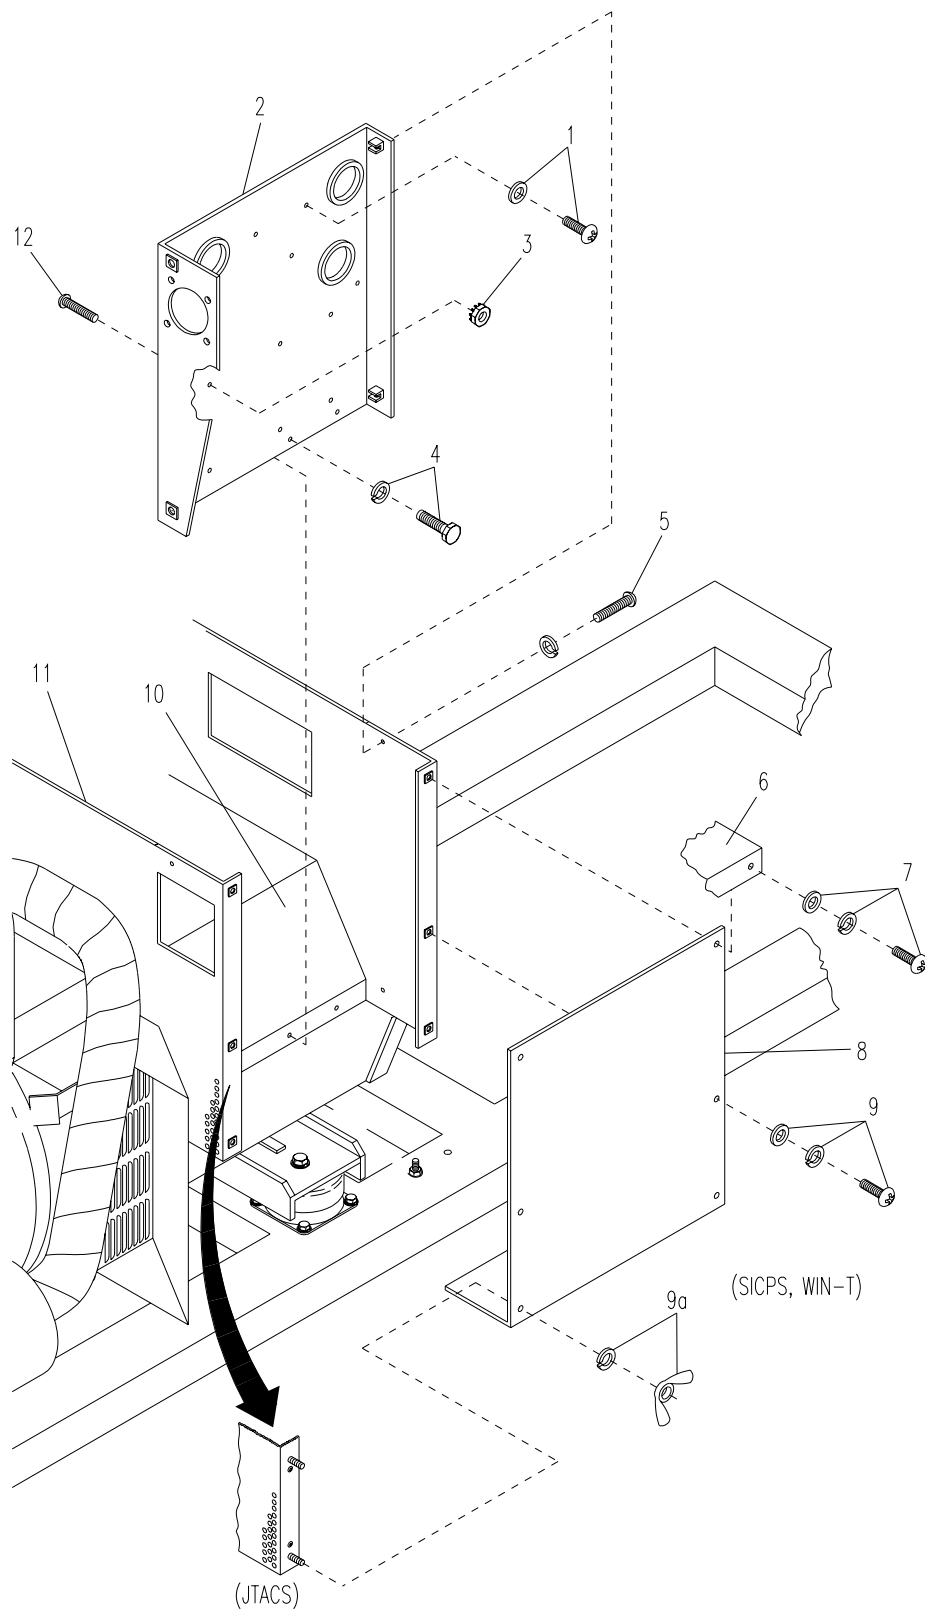

Figure 5-17. Regulator Box
- a. Remove four screws (JTACS), or slotted hex-head bolts (SICPS and WIN-T), flat and lock washers (7, Figure 5-17), and generator housing top cover (6).
- b. Remove two screws, wing nuts and lock washers (9a) (JTACS), or four slotted hex-head bolts (SICPS and WIN-T), flat and lock washers (9), and generator housing side cover (8) (muffler side).
- c. Remove four screws (JTACS), slotted hex bolts, and lock washers (SICPS and WIN-T) (5) securing regulator box (2) to generator housing (11).
- d. Remove three bolts and lock washers (4) (JTACS), or three bolts, flat and lock washers (SICPS and WIN-T), and regulator box (2).
- e. Remove two captive screws (1) and flat washers from regulator box (2).
- f. Install two current shunt mounting screws (12) on new regulator box (2).
- g. Install two captive screws (1) and flat washers from regulator box (2).
- h. Install regulator box (2) on generator (10) and secure with three bolts and lock washers (4) (JTACS), or three bolts, flat and lock washers (SICPS and WIN-T).
- i. Secure regulator box (2) to generator housing (11) with four screws, machine screws (JTACS) or slotted hex-head bolts (SICPS and WIN-T), and lock washers (5).
- j. Install generator housing side cover (muffler side) (8) and secure with two screws, wing nuts and lock washers (9a) (JTACS), or four slotted hex-head bolts (SICPS and WIN-T), flat and lock washers (9).
- k. Install generator housing top cover (6) and secure with four screws (JTACS), or slotted hex-head bolts (SICPS and WIN-T), flat and lock washers (7).
- h. Remove three bolts and lock washers (4, Figure 5-17) (JTACS), or three bolts, flat and lock washers (SICPS and WIN-T) and regulator box (2). Tag and remove electrical leads and ground wire.
- y. Install three bolts and lock washers (4, Figure 5-17) (JTACS), or three bolts, flat and lock washers (SICPS and WIN-T), to regulator box (2), electrical leads and ground wire. Secure to generator housing.